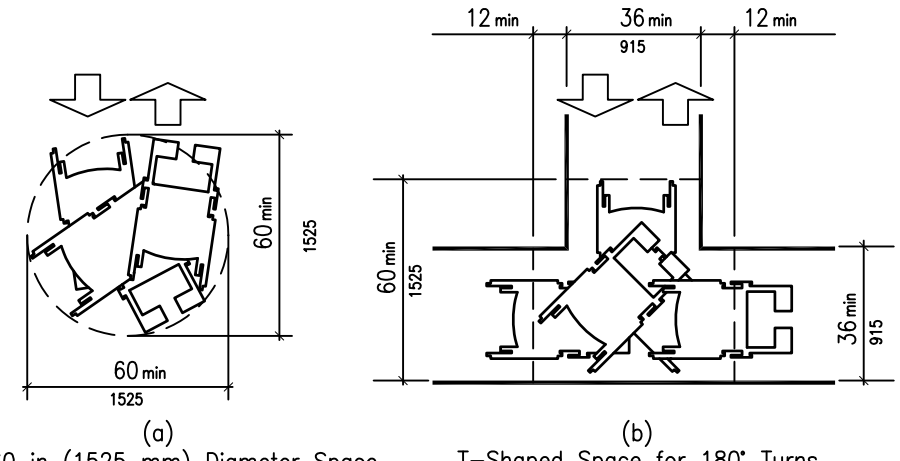

Fig 3
b. 60" DIAMETER SPACE SHALL BE PROVIDED FOR WHEELCHAIR TURNING SEE FIG. 3.